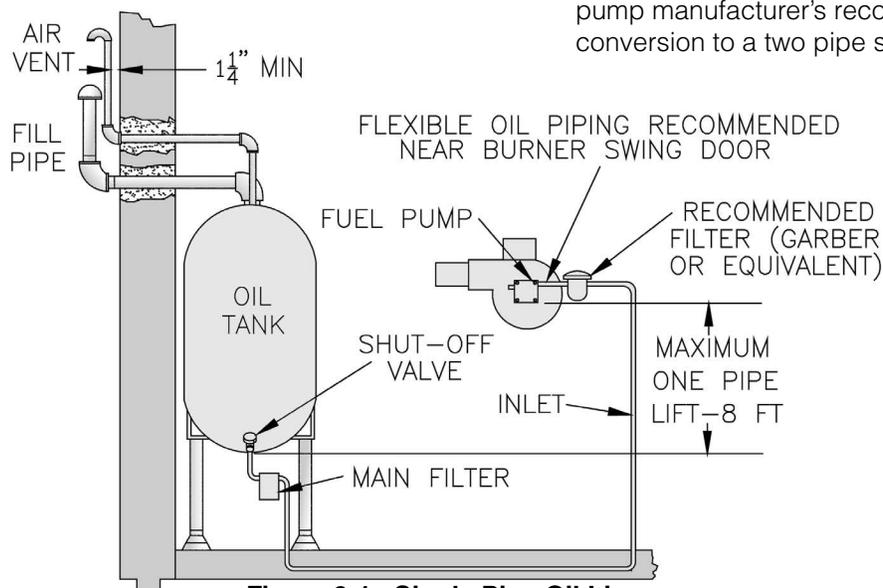

Figure 9-1: Single Pipe Oil Line
2. The single-stage fuel unit may be installed single-pipe with gravity feed or lift. Maximum allowable lift is 8 feet. See Figure 9-1.